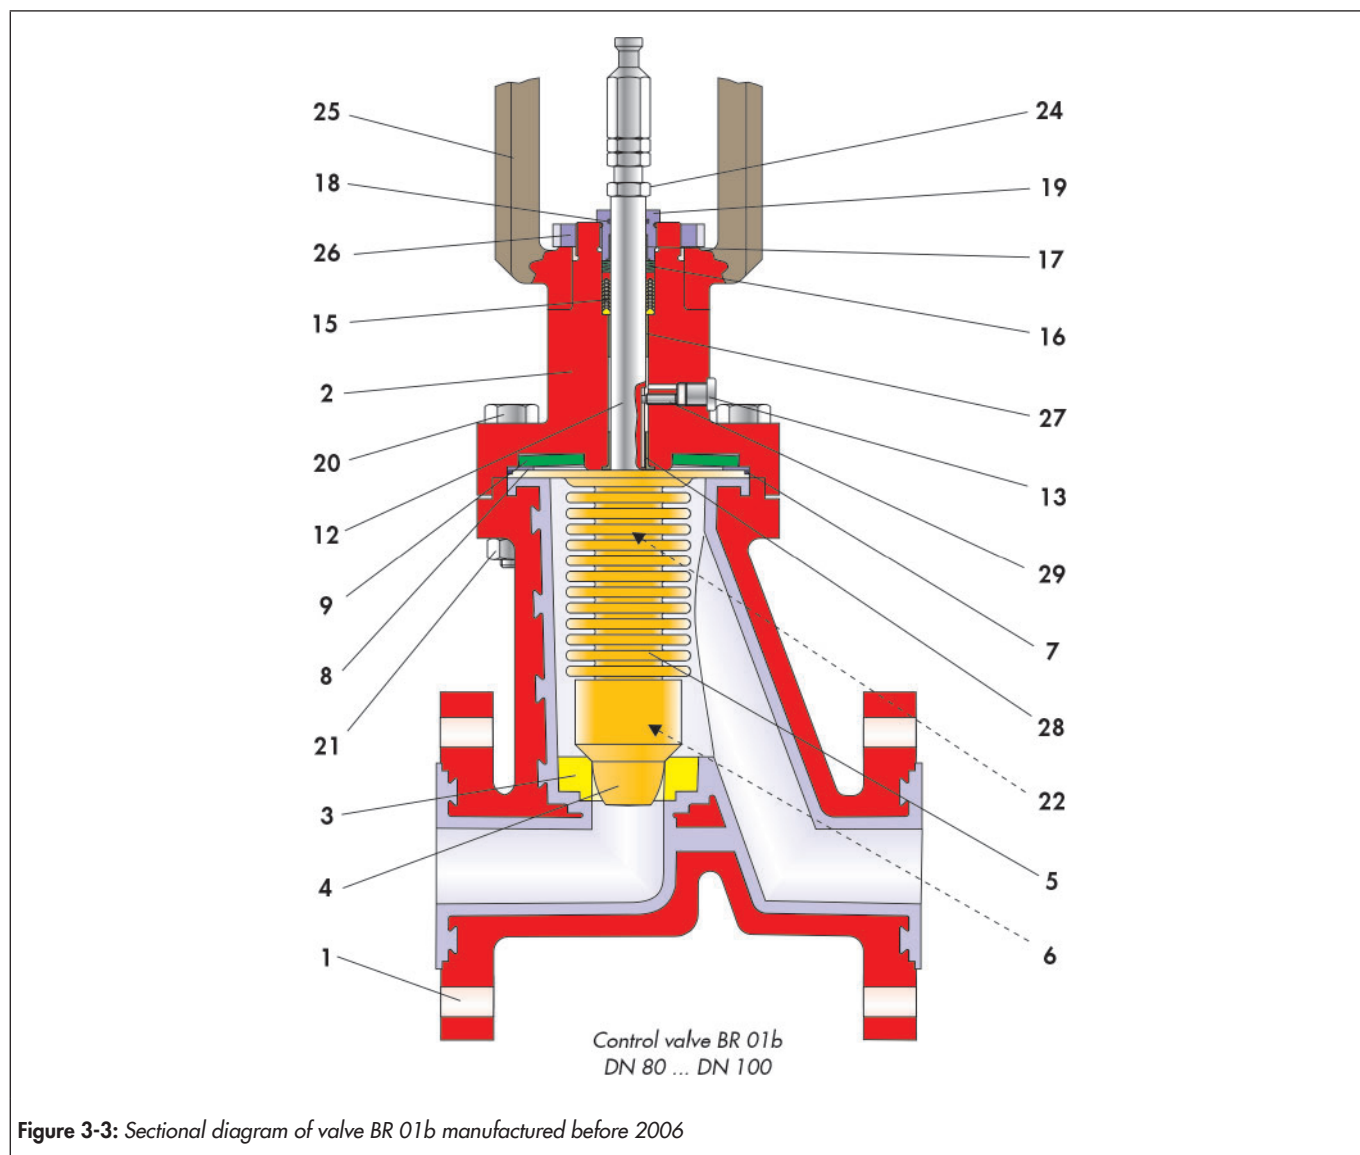

Figure 3-3: Sectional diagram of valve BR 01b manufactured before 2006
- ⇒ Insert the Glycodur bushing (27) with a suitable pin as far as possible into the stem guide.
- ⇒ Push in the Glycodur collar bushing (28) as far as possible.
- ⇒ For further assembly, place the bonnet flange (2) with the flange side on a clean surface at a working height so that the upper opening is easy to reach.
- ⇒ Push in the V-ring packing (15) V-pressure ring, PTFE V-rings and final ring in the correct order into the intended bore. Refer to the drawing Figure 3-3 for the arrangement of the V-ring packing.
- ⇒ Insert the set of spring washers (16). Refer to the drawing Figure 3-3 for the arrangement of the spring washers.
- ⇒ Push the yoke (25) onto the bonnet flange and fasten with the grooved nut (26).
- ⇒ Insert the spring washer (9), thrust washer (8) and o-ring (7) in the bonnet flange (2). Refer to the drawing Figure 3-3 for the arrangement of parts.
- ⇒ Insert the preassembled stem unit (see Chapter 3.5.2.2) in the bonnet flange (2)
- ⇒ Press the flange of the bellows (5) into the turned recess of the bonnet flange (2).
- ⇒ Screw in the threaded pin (29).